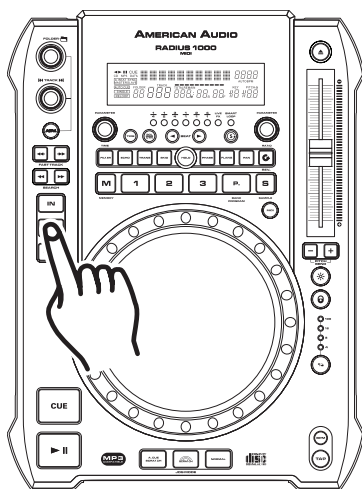

Figure 24
- 4) The red **MEMORY BUTTON (27)** LED will turn off, when your sample is locked into memory.
- 5) At this point your sample has been stored into memory. The original loop you used to create the sample will remain playing until the **OUT BUTTON (15)** is pressed (Figure 24).
- 6) Your sample can now be recalled at any time even when the unit is in **PAUSE MODE**. To recall the sample be sure the sample function is on, by pressing the **SAMPLE BUTTON (25)**. The blue sample button LED will turn on. To play your sample in a continuous loop leave the sample function on. To play your sample just once, turn the sample function off immediately after initiating your sample. With the sample function on the sample will continue to play until the sample function is turned off.